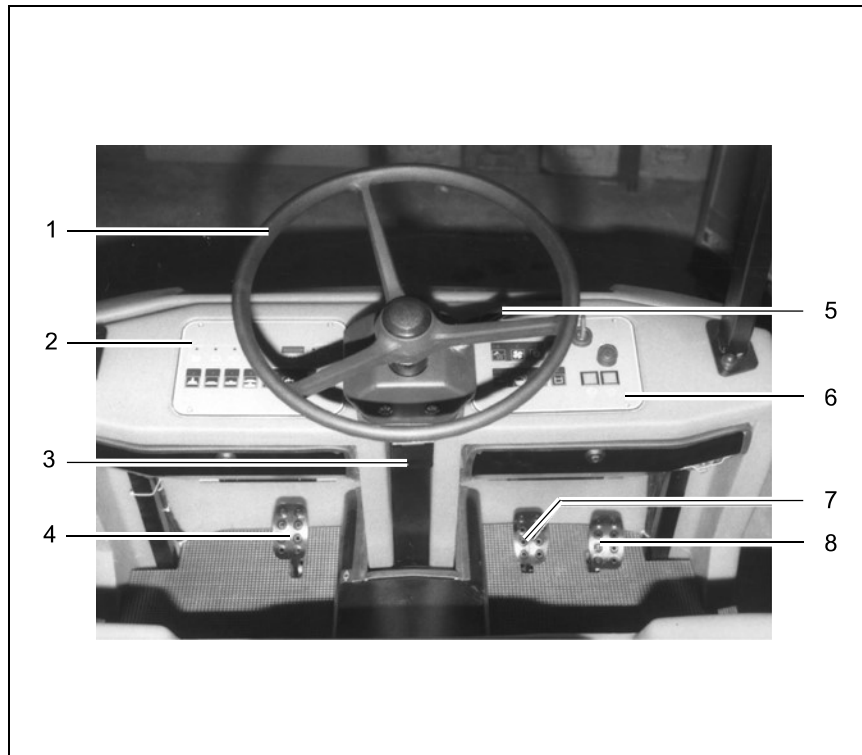
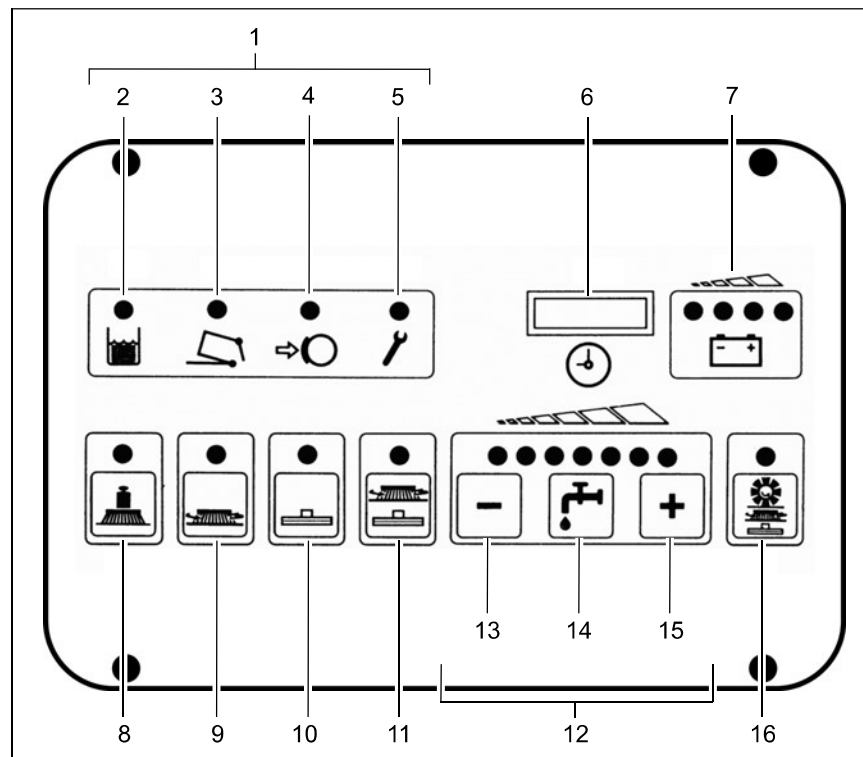

Fig. 18
Fig. 19
- Vacuuming tool on/off switch: Press the button to switch the fresh water supply on and off (Fig. 19/14).
- Press the reduce fresh water quantity button (Fig. 19/13) or increase fresh water quantity button (Fig. 19/15) to set the required water quantity, also refer to Section "Keypad to control the fresh water supply" (Fig. 19/12).
- Press the squeegee and suction turbine button (Fig. 19/10) to switch the suction turbine on or off.
(Fig. 18/1)
(Fig. 18/2)
(Fig. 18/3)
(Fig. 18/4)
- When the parking brake is applied, the corresponding control lamp on the operating panel (Fig. 19/4) lights up red.
Before getting out of the vehicle apply the parking brake, set the driving direction switch (Fig. 18/5) to its neutral position and switch the key switch to off.
(Fig. 18/5)
Right-hand operating panel (Fig. 18/6)
Service brake (Fig. 18/7)
Accelerator to drive forwards and backwards (Fig. 18/8)
- Before actuating the accelerator, use the driving direction switch (Fig. 18/5) to set the direction of travel: forwards or reverse.
- To stop securely, apply the service brake (Fig. 18/7).
An acoustic warning signal (buzzer) is issued should the hydraulic motor overload. At the same time, the red alarm lamp (Fig. 18/5) lights up in the left-hand operating panel (Fig. 19/2) and the driving speed is reduced by approx. 50%. In addition, an error code appears in the service indicator (Fig. 19/6).
3.2.2 Left-hand operating panel (Fig. 19)
(Fig. 19/1) The indicator field enables the scrubber drier to provide feedback on the operating status of the vehicle. This only relates to operating states which cannot be switched on and off via the operating panel: recovery tank full, dirt hopper for pre-sweep/vacuum unit full, parking brake applied and error message.
(Fig. 19/2) The yellow control lamp lights up when the recovery tank has reached its maximum fill level. Also, a “beep” signal is issued every 15 seconds. In this case, a float switch switches the suction turbine off and the squeegee is raised.
(Fig. 19/3) The control lamp lights up red when the dirt hopper is not properly inserted (engaged) or the front flap is not properly closed.
(Fig. 19/4) The control lamp lights up red when the parking brake has been actuated via the pedal to the left of the steering column. If the traction drive is switched on, an acoustic signal is also issued.
(Fig. 19/5)
At the same time, a four-digit code appears in the display of the service indicator (Fig. 19/6). This error code infers which fault has occurred (refer to Section 3.5.1). At the same time, the control lamps flash and an acoustic, pulsating signal is issued.
(Fig. 19/6) The four-digit LED serves to display the operating hours.
(Fig. 19/6) The four-digit LED serves for a more accurate determination of function faults. If a
(Fig. 19/7) After switching on the key switch, all four lamps light up when the battery is fully charged. As the battery is discharged during operation, the three right-hand lamps indicate the level of discharge by going out in sequence from right to left. When the left, red lamp flashes, it indicates that work must come to an end. Approximately three minutes later, the brushes will return to their home position. After a further three minutes, the suction turbine is deactivated and the squeegee is raised. When the red lamp lights up continuously, approximately one minute remains until the entire vehicle shuts down automatically.
Button for brush pressure (Fig. 19/8) This button is used to increase the brush pressure. This may be necessary when the area to be cleaned is extremely dirty.
Button for the brush drive (Fig. 19/9) This button serves to switch the brushes and fresh water supply on and off with simultaneous, respective lowering and raising of the brush head.
(Fig. 19/10) This button serves to switch the suction turbine on and off with simultaneous lowering and raising
(Fig. 19/11) After pressing